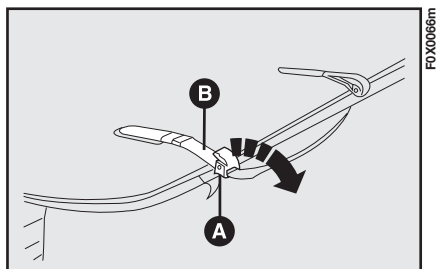

fig. 85
- open the closing devices A-fig. 85 then loosen the straps B;